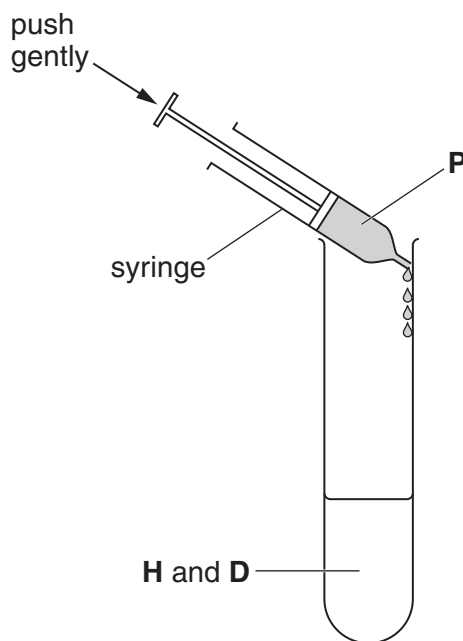

Fig. 1.4
6. As shown in Fig. 1.4, put 1 cm^3 of **P** into the same test-tube and stir as before. Immediately start timing.